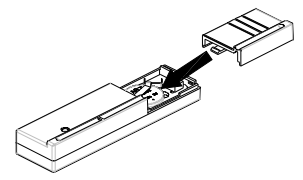

FIGURE 5
2) Replace the battery compartment cover when any settings to be made have been completed FIGURE 5).
When all the settings have been completed replace the battery compartment cover (FIGURE 5) and test the tamper switch operation to do this proceed as follows:.
5) Slide off the battery compartment cover (FIGURE 5) this will activate the tamper switch and trigger the following receivers that are coded and in range of the magnetic contact transmitter: